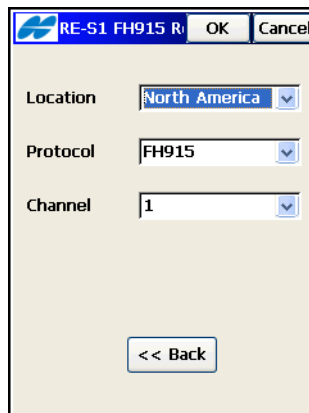

Figure 3-31. Configure RE-S1 Repeater
- **Next** – opens the next *RE-S1 FH915 Repeater* screen to choose the location, protocol and operating channel for the RE-S1 radio (Figure 3-31).